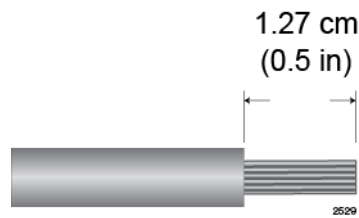

Figure 147. Stripping the Power Wires
1. Prepare adequate lengths of two stranded 8 AWG power wires by stripping them as shown in Figure 147.